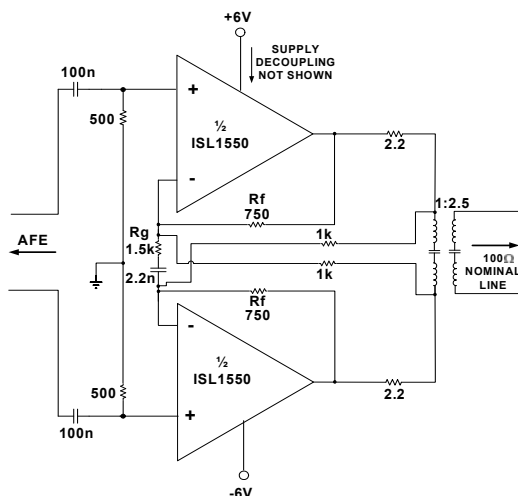

FIGURE 1. TYPICAL APPLICATION CIRCUIT
**Electrical Specifications**  $V_S = \pm 6\text{V}$ , see Figure 1,  $T_A = +25^\circ\text{C}$ , unless otherwise specified.
$V_{CC} = \pm 6V$ , See Figure 1,  $T_A = +25^\circ C$ ,  $C_0 = C_1 = 0V$  (Full power), Unless otherwise noted.